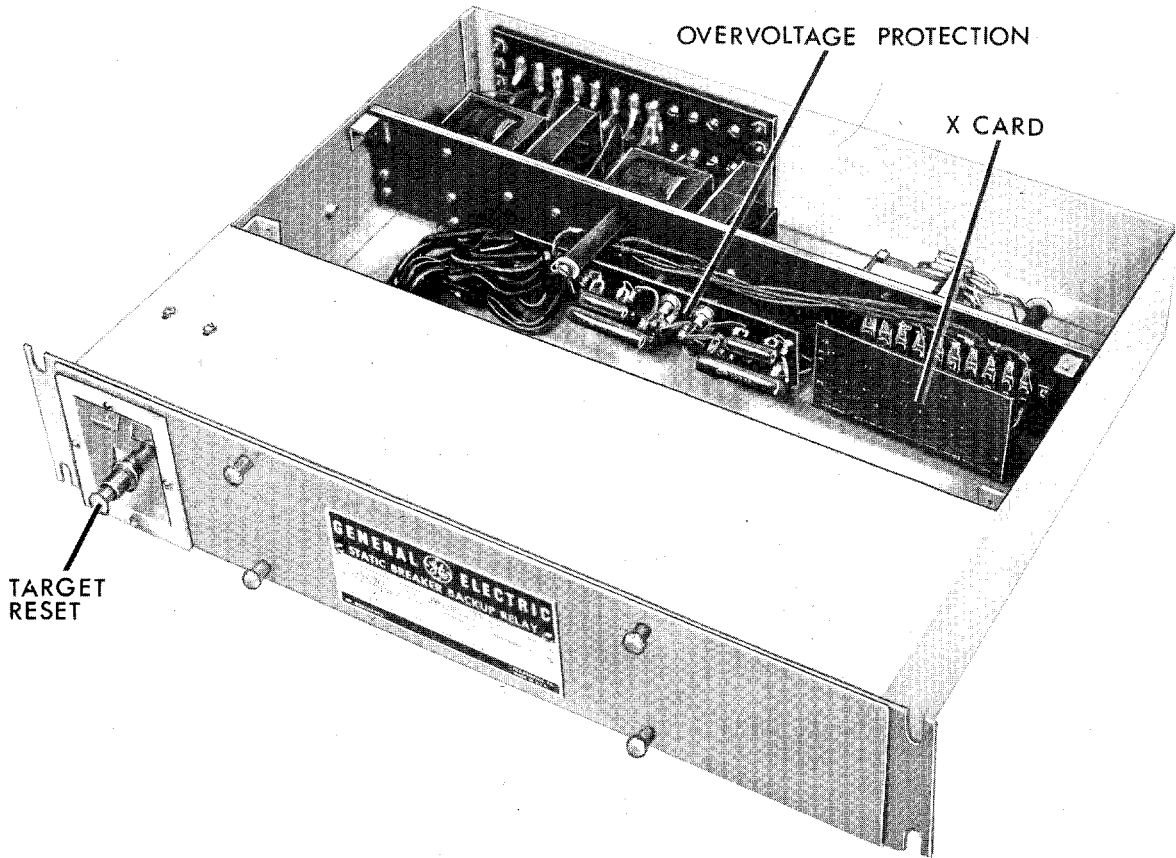

FIG. 2 (8042532) TYPE SBC41A RELAY, TOP COVER PLATE REMOVED (ELEVATED 3/4 VIEW)
2A - 4A) See figure 2 for tap selections
1.0A - 2.0A) See figure 2 for tap selections